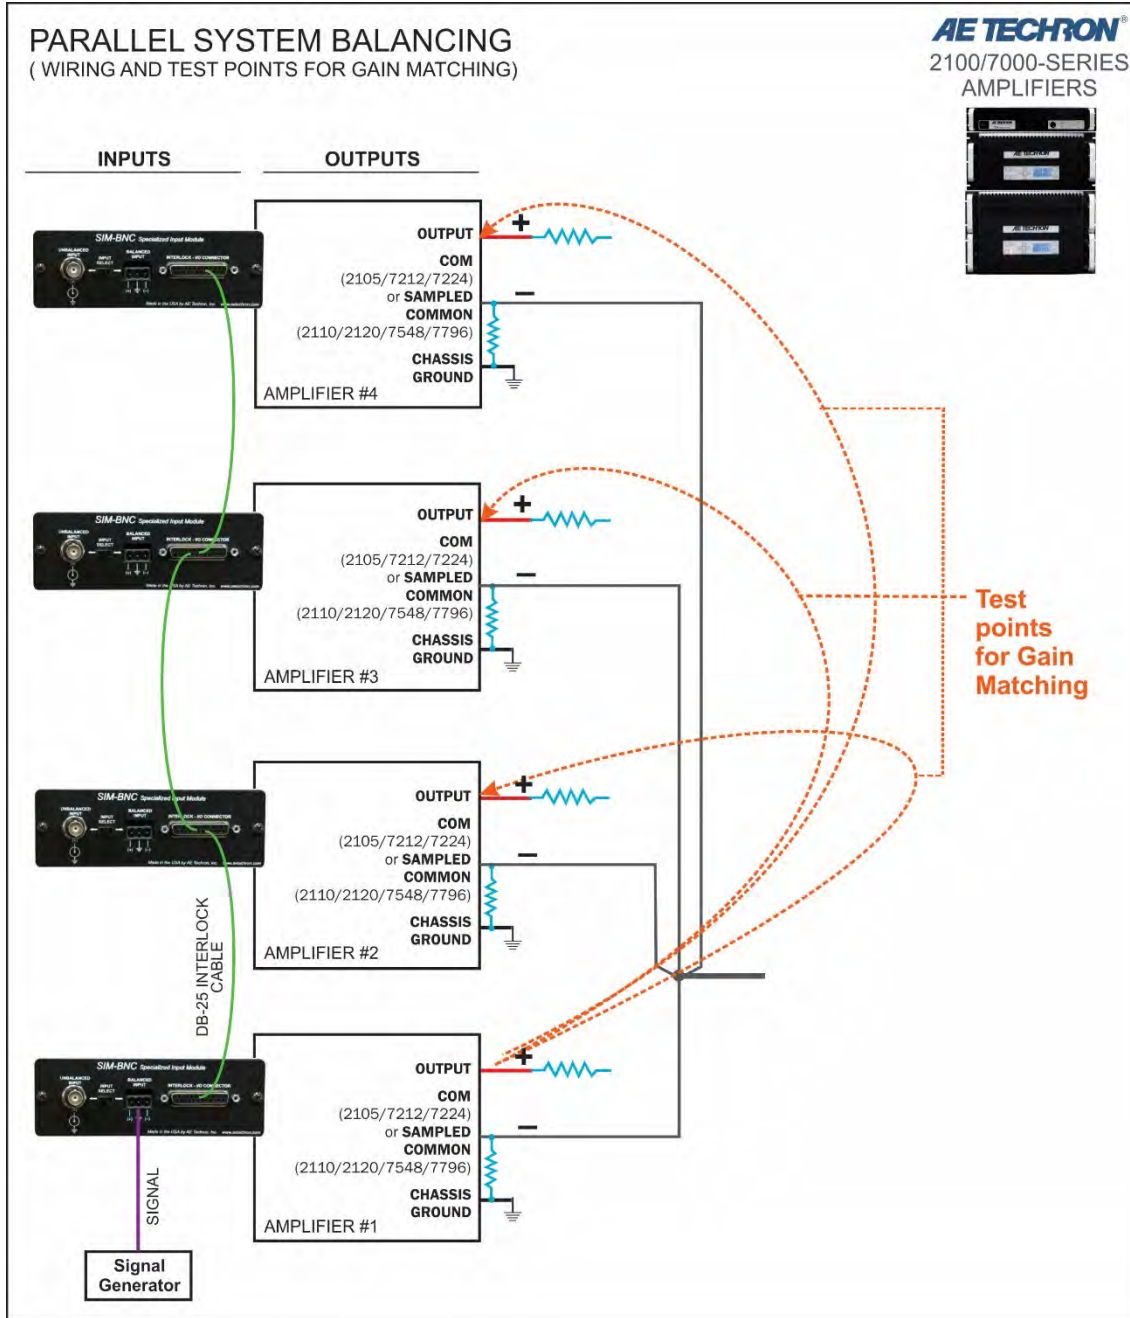

Figure 4.14– Wiring and Test Points for Gain Matching
1. Connect a digital voltmeter set to AC volts between the positive outputs of the first and the second amplifier (see **Figure 4.14**).